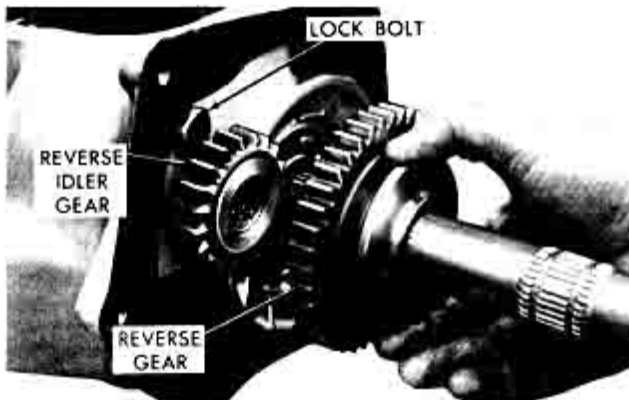

Fig. 4. Removing Reverse Gear
8. Remove reverse sliding gear from mainshaft and slide rear portion of reverse idler gear from the rear bearing retainer (Figure 4).
9. Remove lock bolt from rear bearing retainer (Figure 4), drive locating pin (adjacent to right upper bolt hole in bearing retainer) completely through bearing retainer and into transmission case and rotate rear bearing retainer counterclockwise about 45 degrees so as to provide access to rear end of the countershaft.